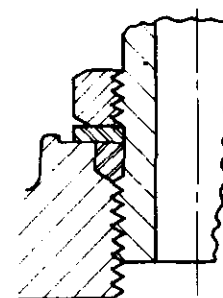

Figure 8. Positioned Elbow
3. Next, position the fitting to meet the joining tube by unscrewing out as far as necessary, up to a maximum of one full turn. Tighten the locknut with a wrench so the back-up washer contacts the boss face (Figure 8) using torque values in Table II.